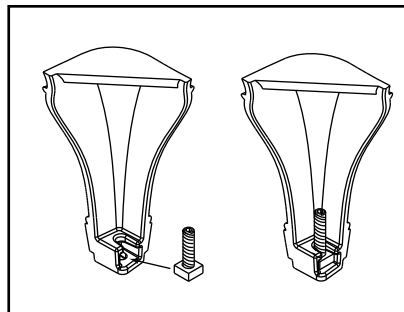
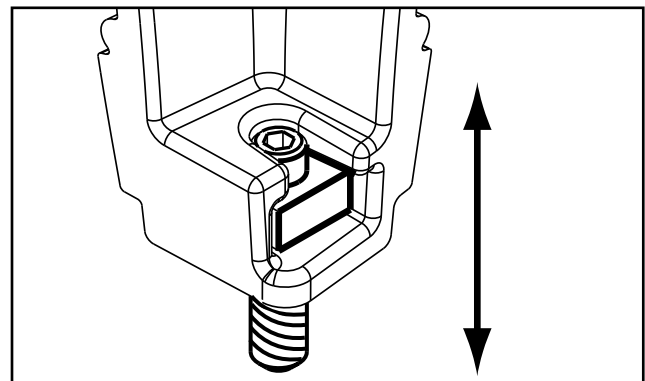

Figure 9B
Fig 9C - Bolt fully extended
2. Slide assembled nuts and bolts into slots on legs with the nuts on the bottom. **Figure 9B.** Use a 5-32" (4mm) Allen wrench to adjust legs up and down to desired level. **Figure 9C**